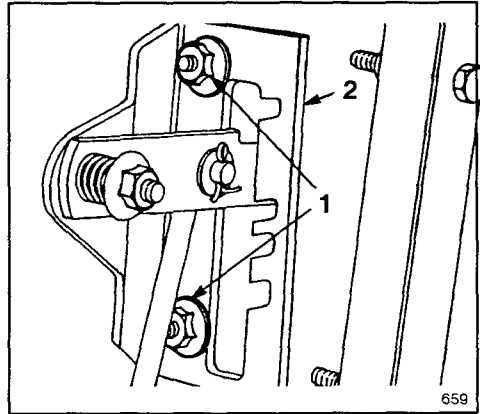
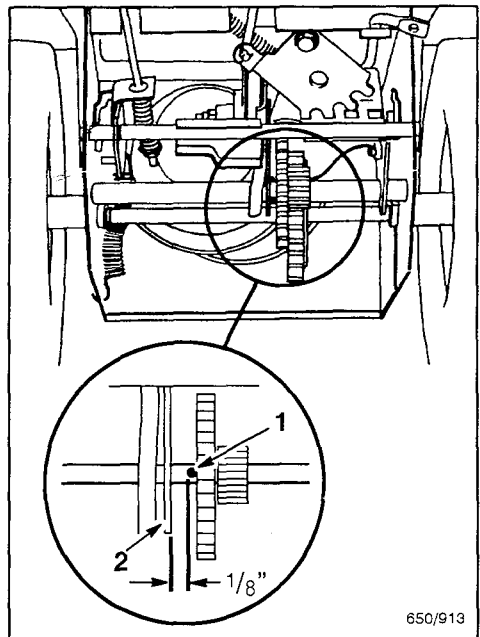

Figure 27
Figure 28
3. Loosen flange nuts securing selector plate to control panel. This allows selector plate to move freely for adjustment (Fig. 27).
4. Shift speed selector to third gear and push down on speed selector plate to move drive assembly to the right. Drive assembly should be 1/8" from roll pin; if not, slide selector plate (Fig. 27) until 1/8" dimension is correct (Fig. 28).